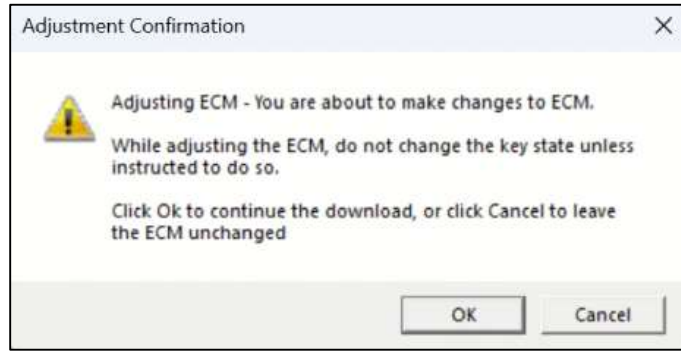

Figure 30
39. Adjustment Confirmation. Before selecting OK, ensure the vehicle batteries are sufficient to provide power throughout the calibration sequence, about 20 minutes. If the vehicle is equipped with engine radiator Efans, disable the power source to the Efans. The ECM will go off-line and the Efan controller will run the fans at full speed with no connection to the engine ECM. Select OK to start the calibration sequence. See figure 30.